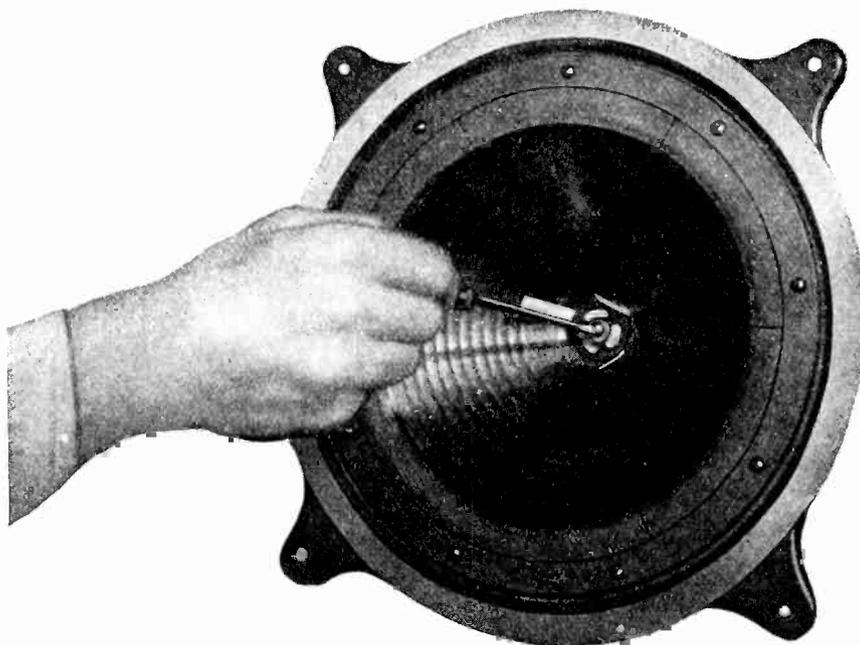

Figure 18—Centering cone
- (c) Insert three cardboard strips about the thickness of a visiting card,  $1\frac{1}{2}$ " x  $\frac{1}{4}$ " in size, through the center web of the cone into the space between the pole pieces and the cone (Figure 18). This will give the cone coil the same clearance on all sides of the pole piece.